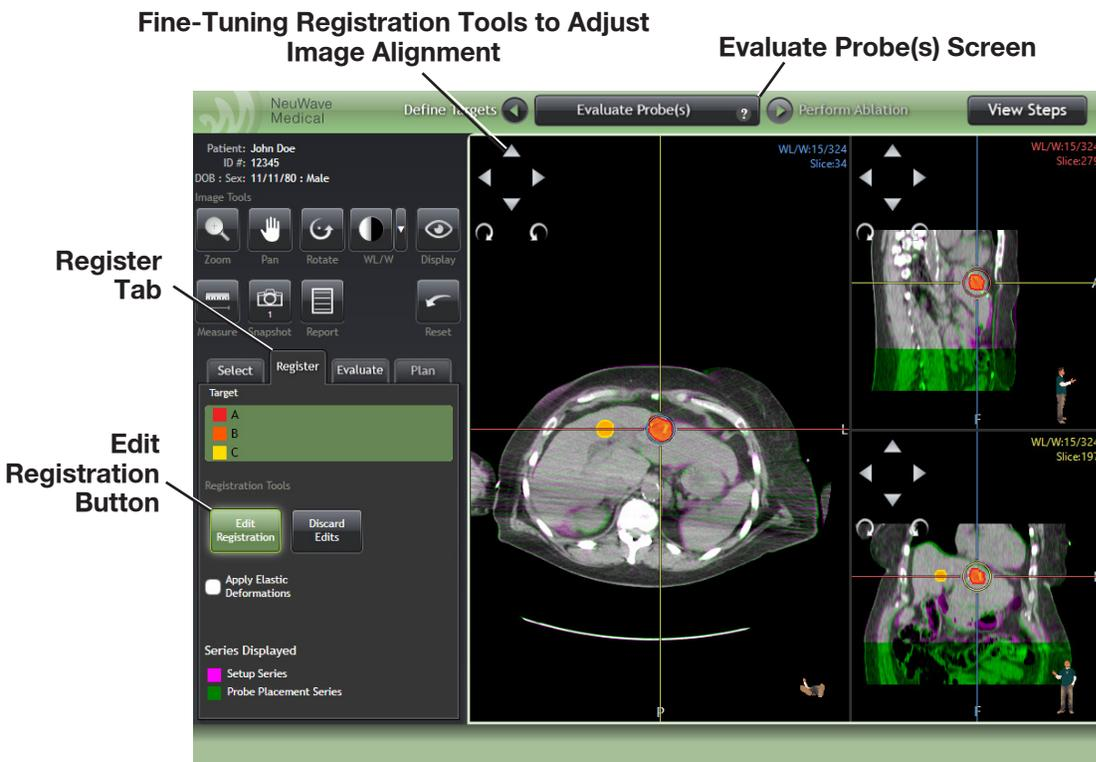

Figure 3-31: Edit Registration.
3. Manual adjustments to the registration can be made using the **Edit Registration** tool. Once the **Edit Registration** tool is selected, vertical and horizontal axis lines and a circle will be drawn on the series images (Figure 3-31). The circle will be centered around the current Reference Point.
6. Each Image View also displays four arrowheads and two clockwise and counterclockwise rotating arrows in the upper left corner of each image that can be used to adjust the alignment of the two sets of images (Figure 3-31).
If the number of probes found by the ABLATE-IQ Software does not correspond to the number of probes present in the patient, the user can define the missing probes manually. The section “Deleting and Creating Probe Displays” guides you on how to define probes manually. To evaluate the probes found by the ABLATE-IQ Software displayed in the Probes Table (Figure 3-31) follow these steps: